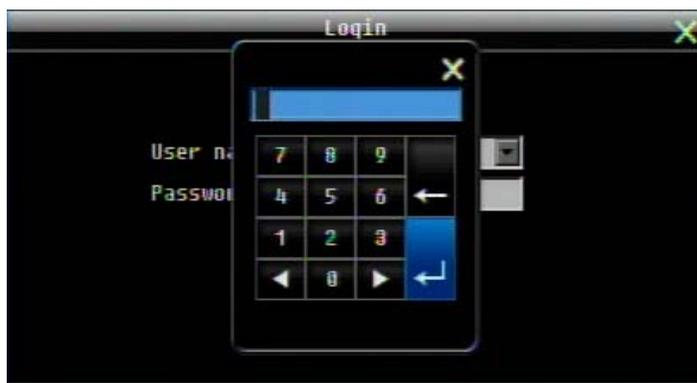

Figure 3-2 On-screen Keyboard
- + To input password by mouse: click the password field to bring up the on-screen keyboard (see Figure 3-2 On-screen Keyboard). Click on each button to input the desired characters for the password. When finished, click "*Done*" on the on-screen keyboard to confirm the password.
- + To input password using front panel: use the arrow keys to select the password field, then press the "**Enter**" key to show the on-screen keyboard (see Figure 3-2 On-screen Keyboard). Use the arrow buttons to highlight each character and press the "**Enter**" key on the front panel to input the selected characters. When finished, highlight "*Done*" and press the "**Enter**" key on the front panel to confirm the password.